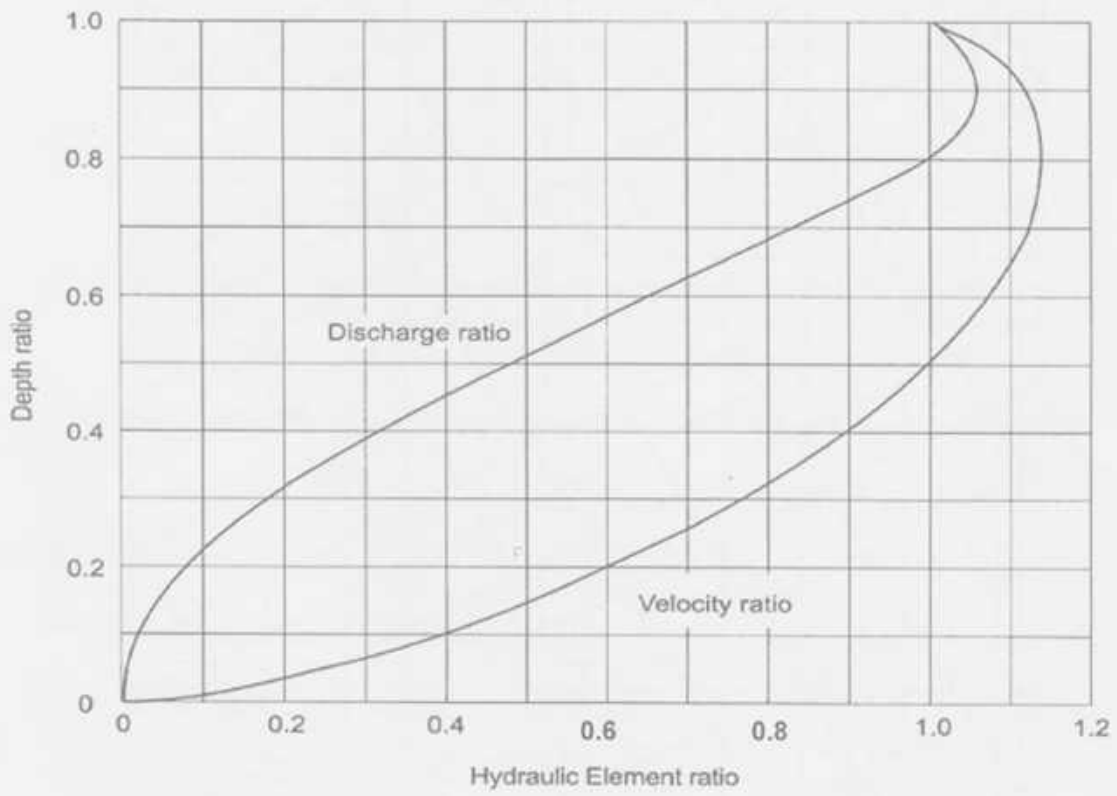

Figure 3: Hydraulic elements diagram
Using the enclosed hydraulic elements diagram (Figure 3), determine the velocity and discharge in a 20 inch diameter circular sewer when flowing half full and when the depth of flow is equal to 10 inch. Given, $n = 0.013$ and slope $S = 0.015$. (8)
[Attach the diagram (Figure 3) for this problem with your answer script]